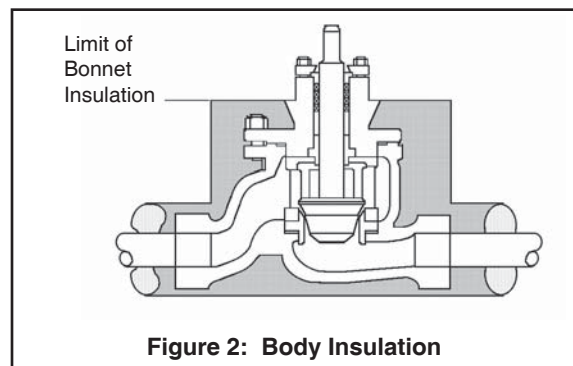

Figure 2: Body Insulation
10. Insulation may be applied as indicated in Figure 2. Drainage away from the packing area must be ensured when fully installed, sealed and lagged for outdoors installation.